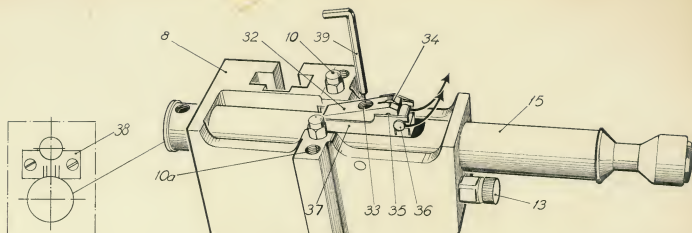

Fig. 8
(see fig. 8)
1. Remove clamping head (8) see step I in III. A.
2. Pull out scoring shaft (15) about 40 mm.
3. Hold clamping head as shown in fig. 8 and press down bolder (32) of cutter wheel with thumb and remove locking pin (36). (If it is difficult to press down the holder (32) loosen screw (33) by turning it counter-clockwise.)
4. Place clamping head (8) on table and push out cutter wheel's shaft (35) with e.g., a paper clip and remove wheel (34).
6. Replace pin (36).
7. Replace clamping head (8), see step 3 in III. A.
24. Locking screw for (25)
32. Cutter wheel holder (see fig. 8).
37. Bracket for (32)
38. Guide for (15)
40. Screws for (20)